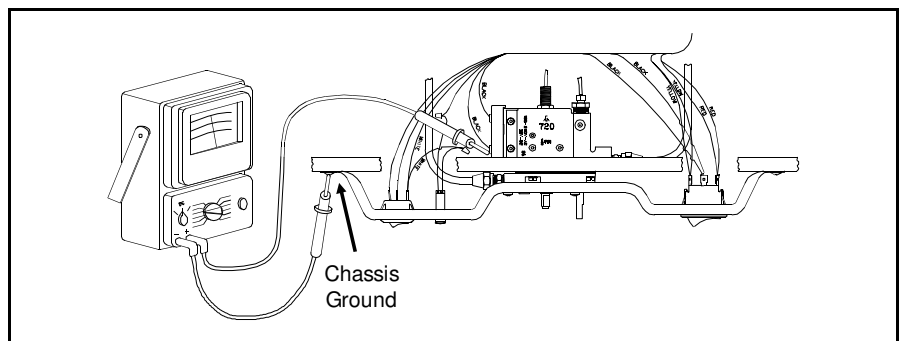

Figure 3.46 12 Volt Check at Combination Control
9. With AC-ELEC STDBY-DC switch to DC; Mode Selector to ELEC; Thermostat to COLD-EST, check for 12 Volts at each terminal of the combination control and ground as illustrated in Figures 3.46 and 3.47. Normal readings should show 12 Volts on both terminals.